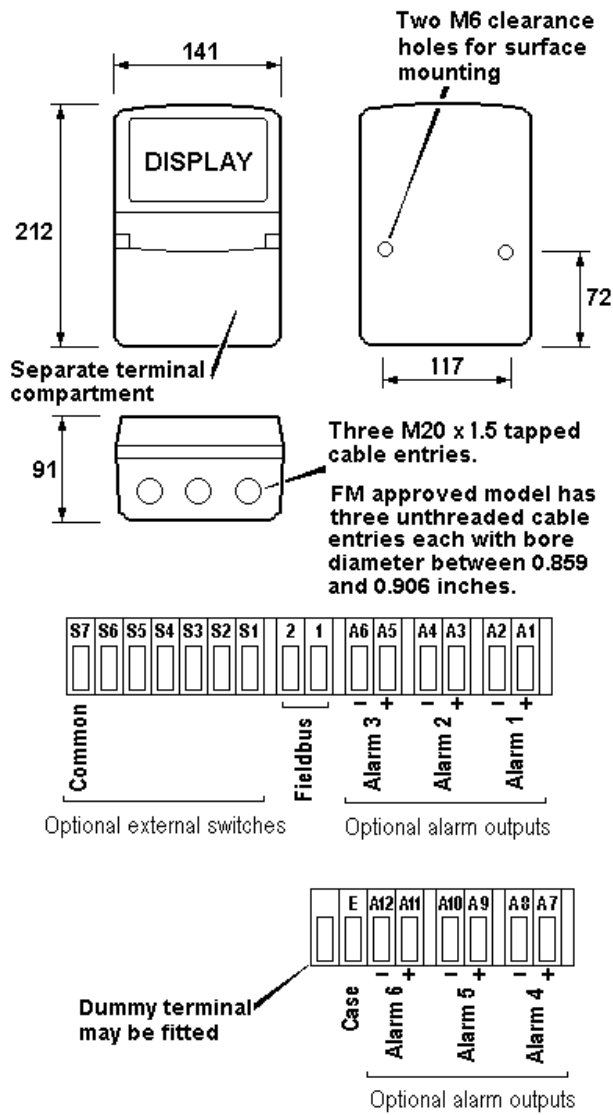

Fig 6 Dimensions and terminal connections
- Connect the field wiring to the terminals as shown in Fig 6.